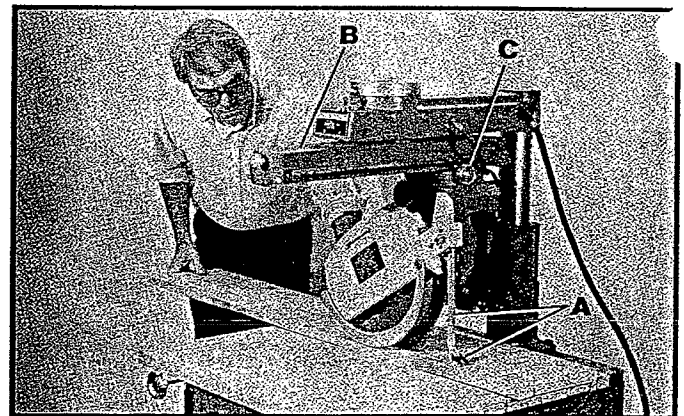
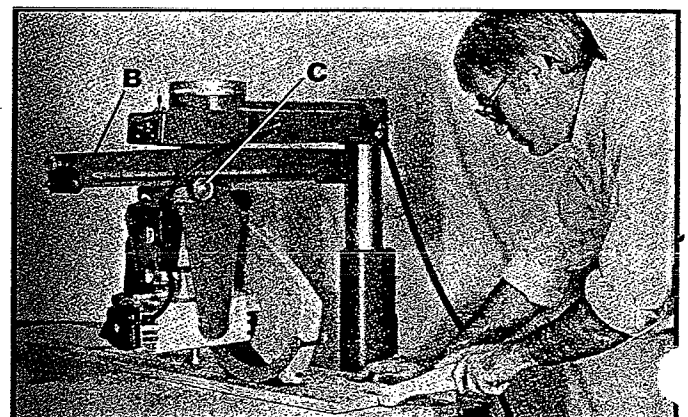

Fig. 65
Fig. 66
Ripping involves making a lengthwise cut through a board along the grain. When ripping, the track arm (B) Fig. 65 and 66, are clamped at "0" on the miter scale. The yoke is then positioned and clamped so that the blade is parallel to the fence in either the inboard or outboard position. When feeding the material, one edge rides against the fence while the flat side of the board rests on the table. The guard should be lowered on the infeed side until it almost touches the workpiece, as shown in Figs. 65 and 66, to act as a holddown. The splitter and anti-kickback fingers (A) Fig. 65, should be adjusted accordingly. The operator's hands should always be well away from and to the side of the blade. When ripping narrow work, always use a push stick such as shown in Fig. 66, to push the work between the fence and blade. **NOTE:** The workpiece must have one straight edge to follow the fence. If board is bowed, place hollow side down. **IMPORTANT:** The cuttinghead clamp knob (C) Figs. 65 and 66, should be securely tightened for all ripping operations. Pay particular attention to warning label which states that material must never be fed into the outfeed end of the blade guard.
Out-ripping involves all of the general conditions stated under **RIPPING**. The yoke is clamped at right angle to the track arm with the blade guard facing the front of the machine. The cuttinghead is positioned on the out-rip scale to the desired setting and clamped in position. The workpiece is fed from the left side of the saw. Fig. 65, shows a typical out-ripping operation on the radial saw.
In-ripping involves all of the general conditions stated under **RIPPING**. The yoke is clamped at right angle to the track arm with the blade guard facing the rear of the machine. The cuttinghead is positioned on the in-rip scale to the desired setting and clamped in position. The workpiece is fed from the right side of the saw. Fig. 66, shows a typical in-ripping operation on the radial saw. Note the push stick being used due to the narrow workpiece.